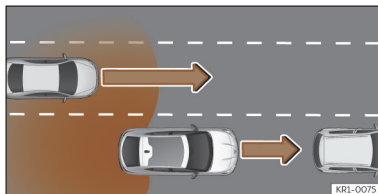

Fig. 131 Overtaking with traffic behind the vehicle.
- When being overtaken by another vehicle >>> **Fig. 131**.